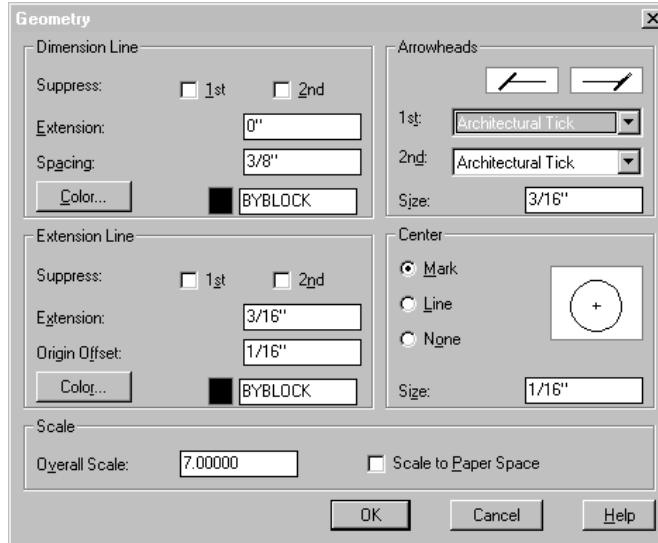

Figure 5-29
2. Type a new name for your dimension style in the Name box. Then pick the **Save** button. Next, pick the **Geometry** button. The Geometry dialog box will come up as shown in Figure 5-29. Change the Overall Scale to **7** or **8**. While you're at it, you can change the arrowheads to **Architectural Tick** if you wish. Then, pick the **OK** button. This will take you back to the Dimension Styles dialog box. Be sure to pick the **Save** button again before picking the **OK** button to exit. If you don't do this, all your changes will be lost.